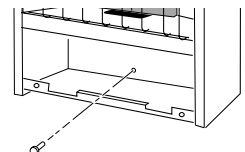

Figure 11 - Installing Bottom Mounting Screws
1. Locate bottom mounting hole. This hole is near the bottom on the back panel of heater (see Figure 11).